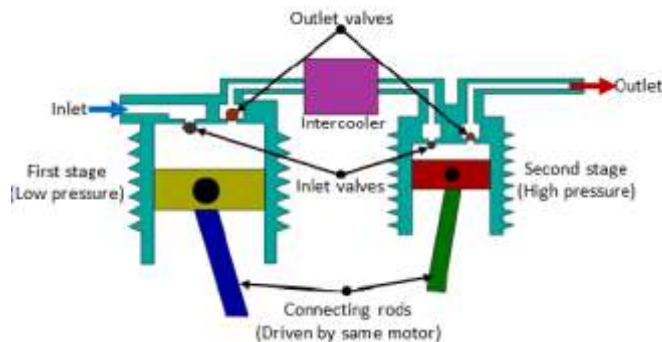

Fig.4.3 Multistage Compressor
- ▶ The multistage compressor with intercooler as shown in *Fig.4.3*. It is used to reduce the temperature of compressed air during the compression stages.